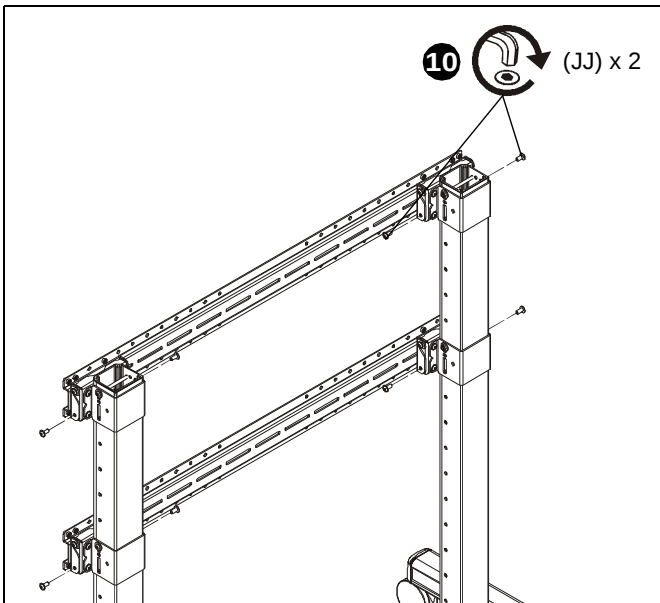

Figure 8
10. Install two 5/16-18 x 3/4" button head flange screws (JJ) into the lower holes on each quick connect bracket (QQ) and quick connect base (C) to secure wall plates (X). (See Figure 8)
11. Tighten all 5/16-18 x 3/4" button head flange screws (JJ).